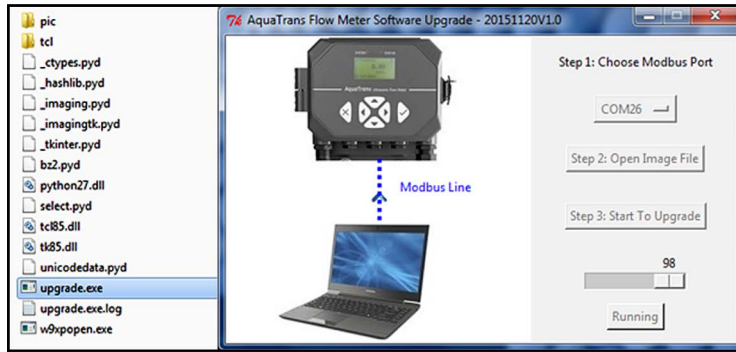

Figure 37: Running the update.exe Software
3. Run the update software by clicking on the upgrade.exe file (see Figure 37 below). Installation of the software on the PC is not required.